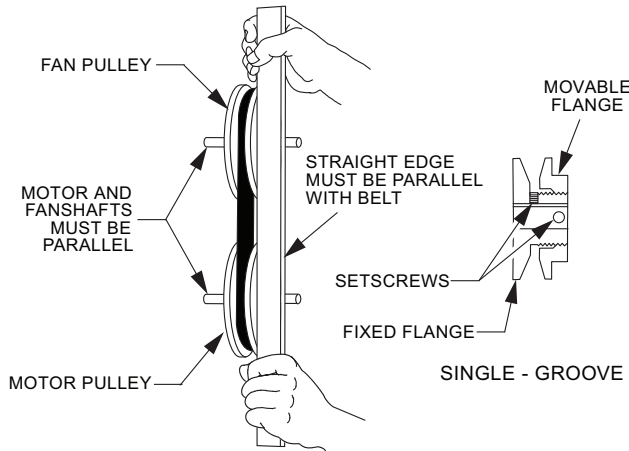

Fig. 7 — Supply-Fan Pulley Adjustment
The motor pulley is an adjustable-pitch type that allows a servicer to implement changes in the fan wheel speed to match previously installed ductwork systems. The pulley consists of a fixed flange side that faces the motor (secured to the motor shaft) and a movable flange side that can be rotated around the fixed flange side that increases or reduces the pitch diameter of this driver pulley. See Fig. 7.
2. Loosen belt by loosening fan motor mounting nuts. See Fig. 7.
3. Loosen movable pulley flange setscrew. See Fig. 7.